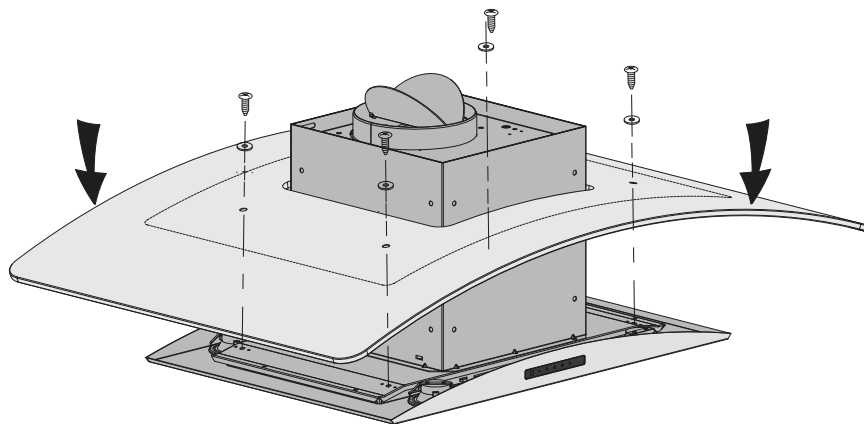

Figure 7
- Use 4 pieces M4 × 25 mm mounting screws with washers to attach the glass into the hood (see Figure 7).